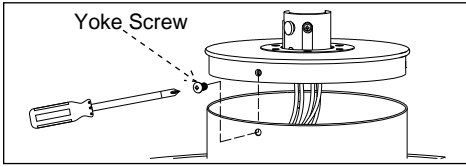

Fig. 1
Step 1. Take out yoke assembly (F).
Step 2. As shown in Fig. 1, thread the fan's power cord through the yoke assembly (F), then align the holes on the fan frame (G) with the yoke assembly (F), and secure with yoke screws (CC).